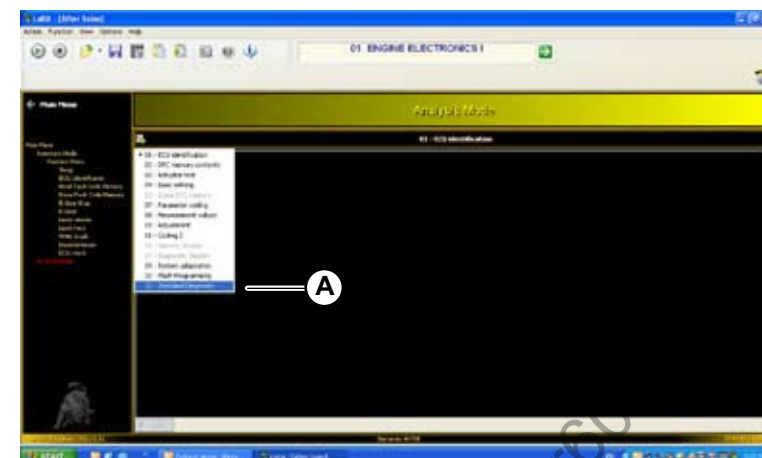

Fig.28
- Select “33 Standard diagnostic” (A-Fig.28).